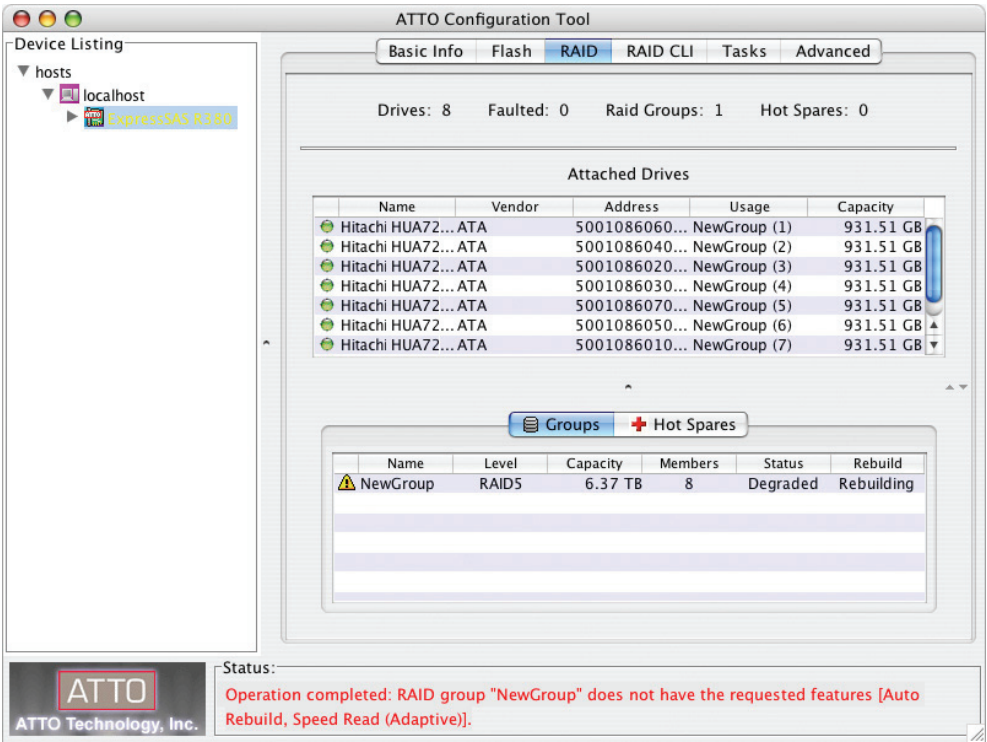

Figure 22
4. Select RAID Management > Rebuild from the application menu; a tab for the RAID group will open, and you will be prompted to drag a free drive on top of the one being replaced. See **Figure 22** on page 26.